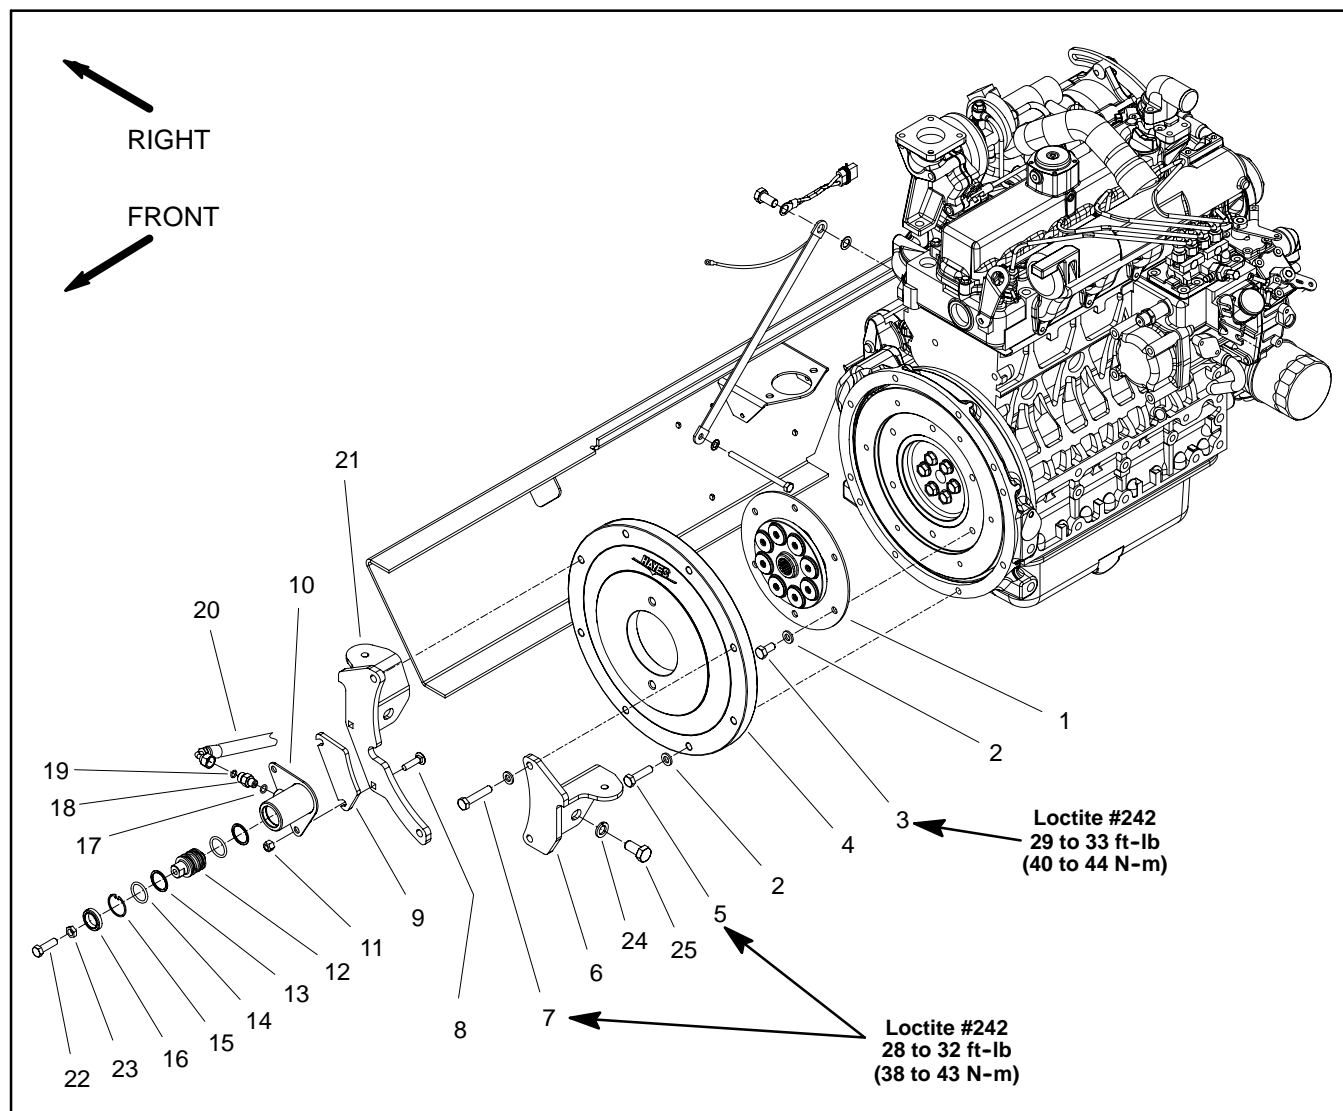

Figure 18
### Coupler Removal (Fig. 18)
2. Remove flywheel plate and spring coupler from engine using Figure 18 as a guide.
### Coupler Installation (Fig. 18)